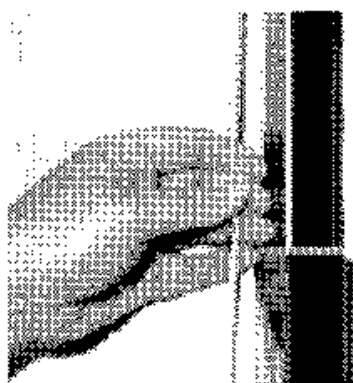

Fig. 3
9. Now, complete raising roof until gray limit cable is snug. **DO NOT OVERTIGHTEN.** Fig 3